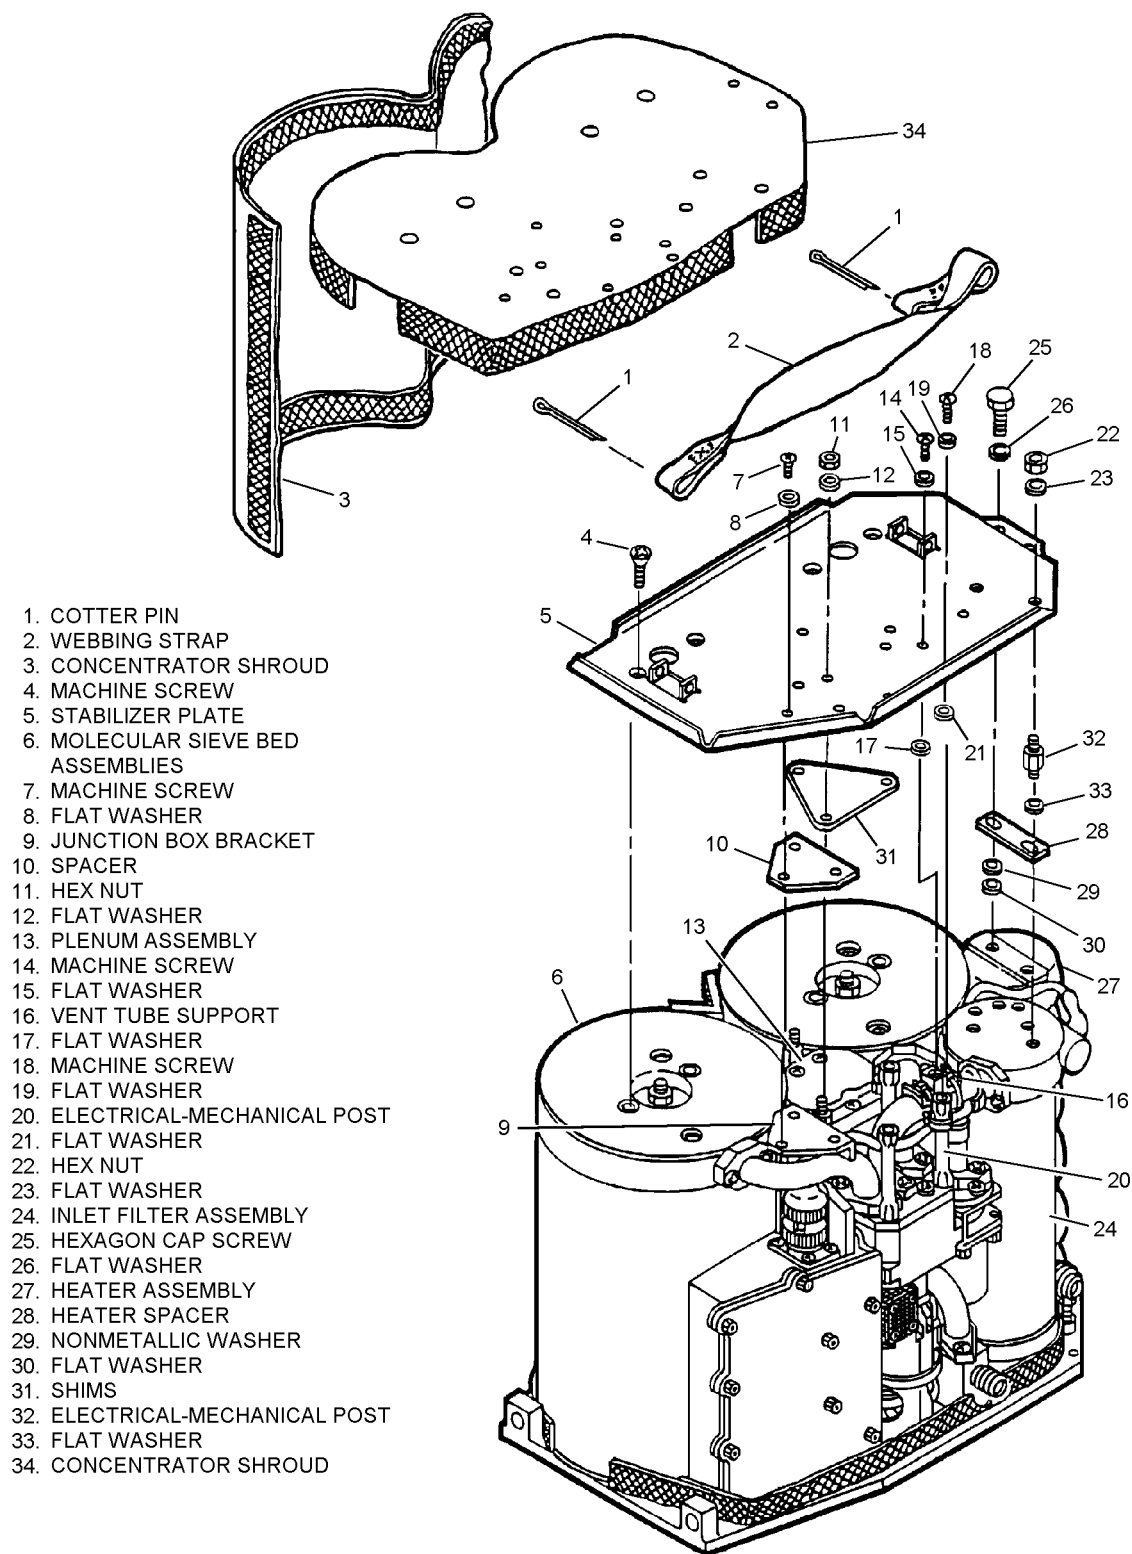

Figure 6-9. Shroud Assembly/Stabilizer Plate Removal/Installation
Index numbers refer to figure 6-9 unless otherwise noted.
1. Unfasten and remove concentrator shroud (3, figure 6-9).